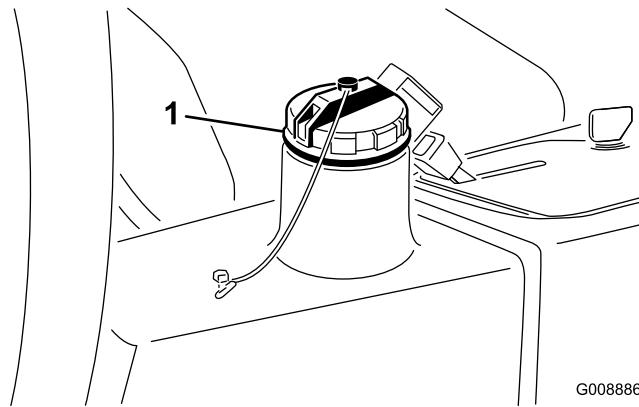

**Figure 73**
2. Disconnect the hydraulic line (Figure 72) or remove the hydraulic filter (Figure 73) and let the hydraulic fluid flow into a drain pan.
4. Place a drain pan under the filter (Figure 73) and remove the filter.